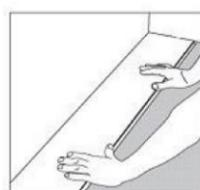

Figure 1
6. Starting from the **RIGHT** with the tongue facing the wall, carefully place the first board in place (**Figure 1**).